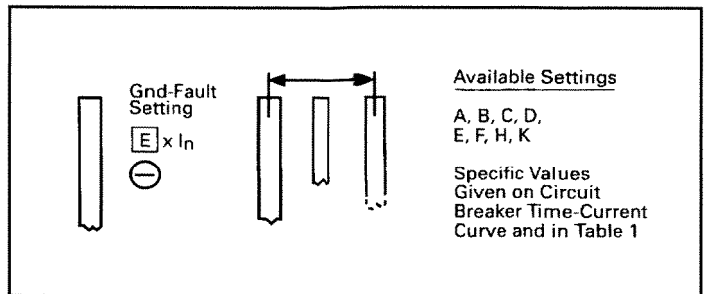

Fig. 8.6 Ground Fault Current Settings
The eight (8) Ground Fault “Pick-up” Current settings are labeled with the code letters “A” through “K” (except there are no “G” or “I” settings), as illustrated in Fig. 8.6. In general, the specific current settings range from 0.25 to 1.0 times (I_n), the rating plug value, but cannot exceed 1200 A. The specific Ground Current Settings for each letter are listed in Table 4 and on the (G) Time-Current Curve applicable for the circuit breaker (see Section 5).